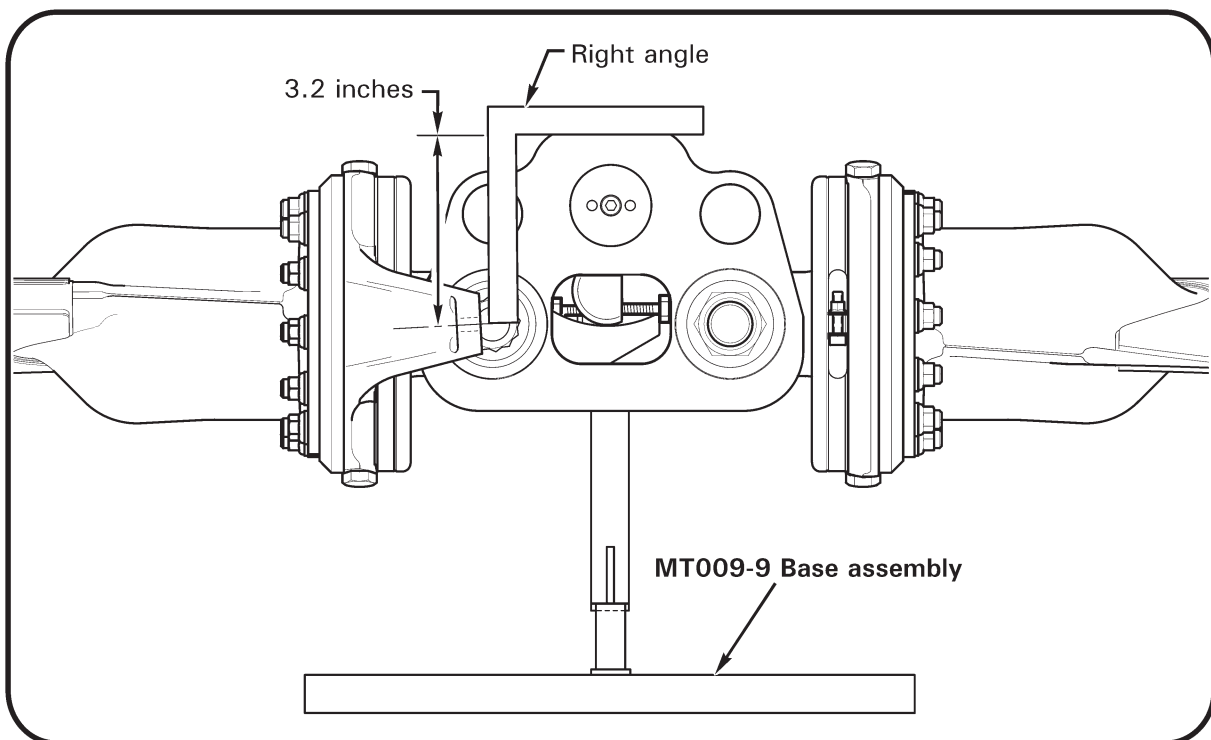

FIGURE 2-21 EQUALIZING BLADE PITCH
4. Refer to Figure 2-21. Verify blade pitch angles are approximately equal with pitch horns adjusted as shown. If blade pitch angles are not equal, then pitch horn(s) are not correctly installed.